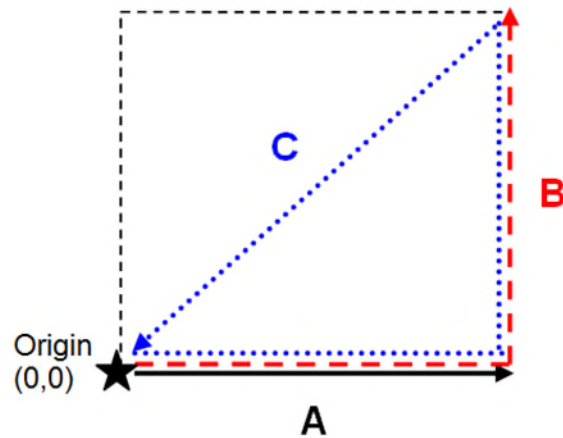

Figure 7-4: Forming a right-angle triangle
**Step 2 – Layout the Grid** – for maximum accuracy, it's very important to establish a right-angle triangle (Figure 7-4). The easiest way is to use a single tape measure and refer to the diagram below. Start at the origin, walk out the desired distance for X-axis (A) and mark that point. Then then turn 90 degrees and walk out the desired distance for the Y-axis (B) and mark that point. Determine the hypotenuse side (C) from the screen (Figure 7-4), then close in the triangle (C - hypotenuse side) back to the origin, making sure you meet the origin at the distance for C. If not, move that last point in tandem with the origin, such that both sides of the tape measure are taut.